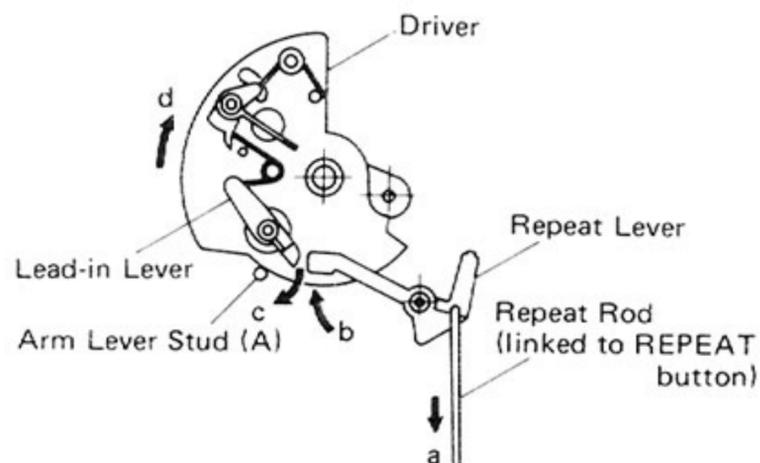

Fig. 15
When the REPEAT button is pressed, the repeat lever gets the position shown in Figure 15 and the mechanism operates to lead in the tonearm repeatedly to the same position. As the repeat rod moves in direction "a", the repeat lever turns in direction "b" and stays there. If the change cycle starts at this time, the lead-in lever turns in direction "c" and moves with arm lever stud (A). As the driver moves, the tonearm will be driven in direction "d" to perform lead-in operation.